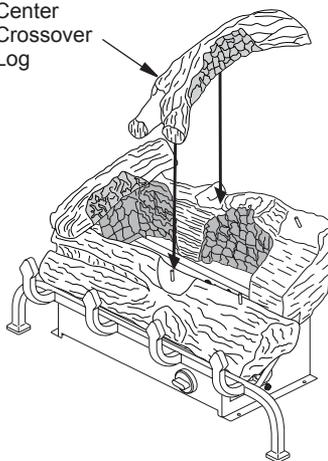

Figure 19 - Installing Center Crossover Log (VYS18 Series Shown)
- Place the center crossover log as shown in Figure 19. The bottom of the log is marked with a "C" for center. Match square peg on center of rear log with square hole in bottom of center crossover. Match round peg on center of front log with round hole in bottom of center crossover log.